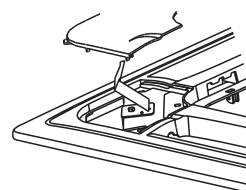

Fig.4-14
Wrench off the bolts, loose the rope of the installation covers, and remove them. (Refer to Fig.4-14)
- 5) Regulate the panel in the direction of the arrow in fig.4-14 dslightly to fit the panel's center to the center of the ceiling's opening. Guarantee that hooks of four corners are fixed well.